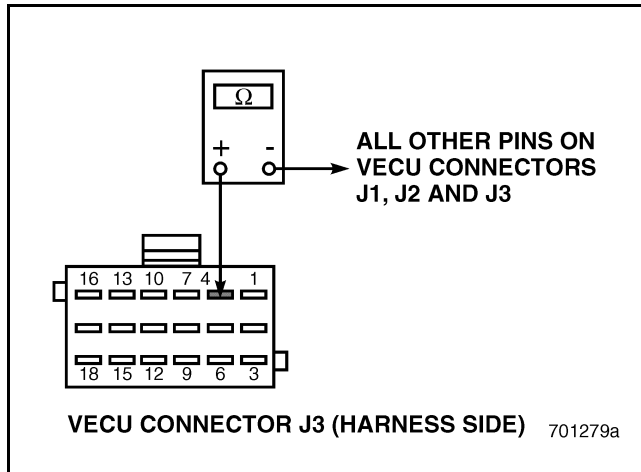

Figure 554
2. Disconnect the Throttle Position (TP) Sensor.
4. Check for continuity between VECU connector J3 pin 4 and all the other pins on VECU connectors J1, J2 and J3 (see Figure 554).